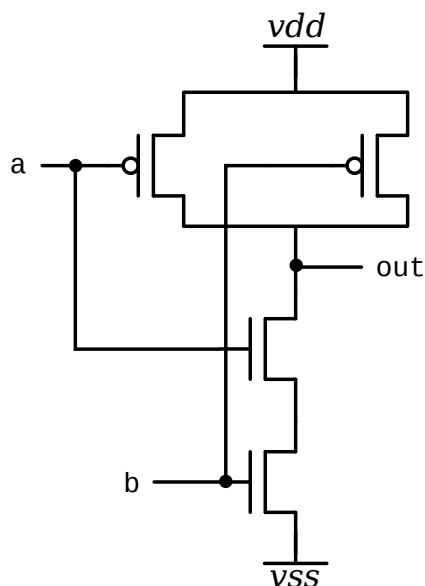
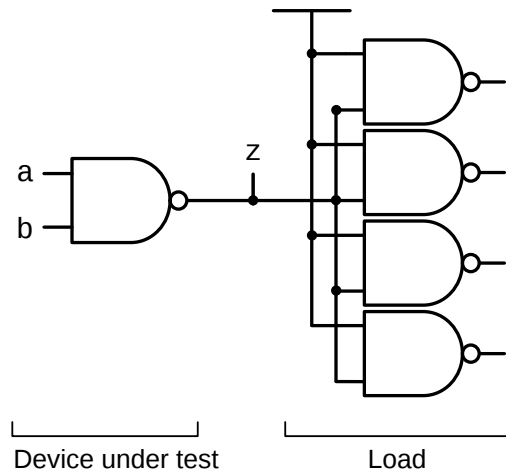

Figure 1
Figure 2: The NAND is used for both the device under test, and the load.
a. Create the schematic for the two-input NAND in Figure 1, and use the NAND to build the circuit in Figure 2; for this Part, use 50nm / 250nm for the PMOS devices and 50nm / 300nm for the NMOS devices. Call the NAND sub-circuit NAND2 in Figure 1, and the circuit in Figure 2 loaded_nand. **Please name the NMOS instances NMOS0 and NMOS1, and the PMOS instances PMOS0 and PMOS1** (order is not important). To do this, select the transistor or instance in question, hit 'q', and change the name in the field "Instance Name". Similarly, name the NAND gate that is directly connected to the a, b and z pins DUT².